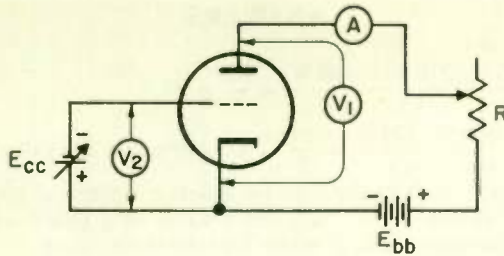

Fig. 16
3. Refer to Fig. 16. Readings were taken and the table shown below was made. The purpose of the table was to calculate (a) $(\mu)(g_m)(r_p)$, which has the value (b) _____.
4. Refer to Fig. 16. A second table was made, as shown below. The purpose of the table was to calculate $(a)(\mu)(g_m)(r_p)$, which has the value (b) _____.